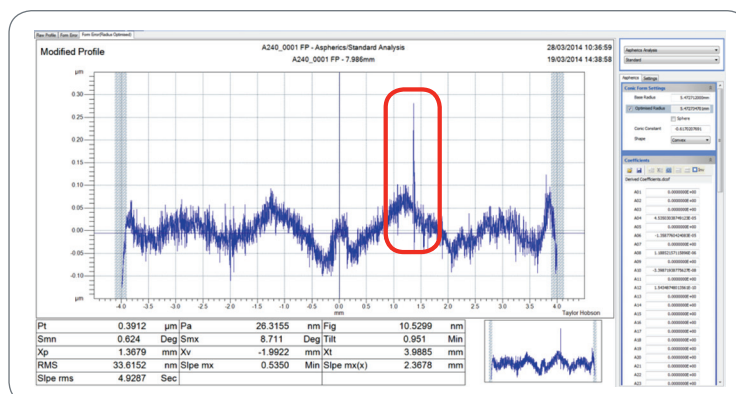

Figure 2: The analysed trace showing the spike to be removed
- 1 Open the trace and analyse as normal (Figure 2).